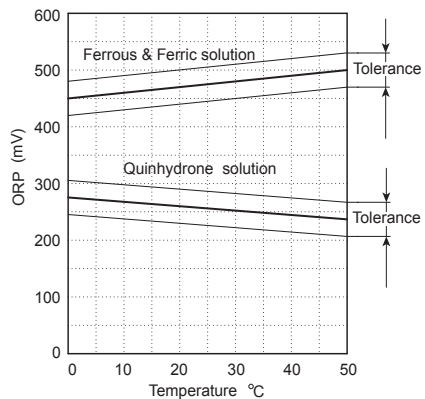

Fig. app-1 ORP of Test Solution
To determine whether the ORP electrode is normal or not, a solution of known ORP is measured to check if the measured value is within tolerance (see Fig. app-1). This is done in measurement mode.
- (2) Transfer about 50-100 ml of test solution to a clean 200 ml beaker.
- (3) Remove the ORP sensor from its holder. If an immersion holder is used, first remove the holder then remove the (sensor) protector from the holder.
- (4) Wash off any of the measured solution adhering to the sensor using tap water, then wipe off any moisture droplets adhering to the sensor.
- (5) Immerse the sensor tip in the test liquid (see (2.) above), wait for the ORP reading to stabilize (this typically takes 5 to 10 minutes).
- (6) After the display reading has stabilized, read and note it. Measure the temperature of the test solution, and check the ORP of the test solution at that temperature using Fig. app-1.
- If the ORP reading is within the tolerance shown in Fig. app-1 then the sensor is normal.